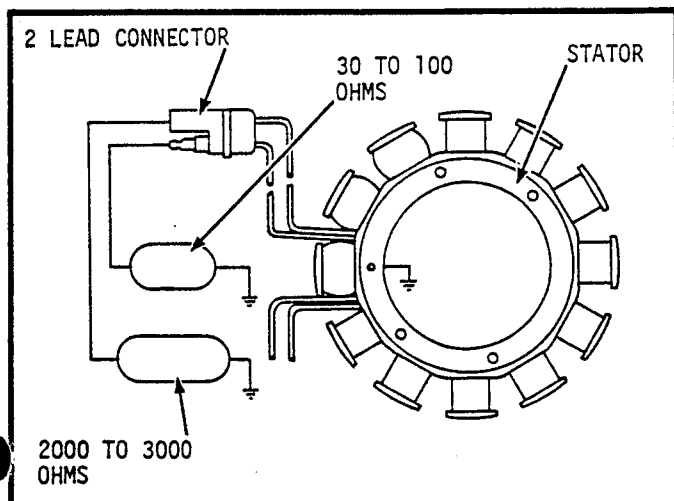

FIGURE 3-10 -- ALTERNATOR STATOR IGNITION TEST
- STEP 2:** Unplug the two-lead connector from the electronics module and make the following checks at the connector on the wiring harness. (See Fig. 3-10) Connect one ohmmeter lead to a good ground connection on the engine block. Connect the other ohmmeter lead to the black lead terminal. The ohmmeter should indicate between 30 and 100 ohms. Remove the ohmmeter lead from the black lead terminal and connect it to the white lead terminal. The ohmmeter should indicate between 2000 and 3000 ohms. (Change scales and reset ohmmeter to zero if necessary.) If these readings are not obtained, the stator assembly is defective and must be replaced.